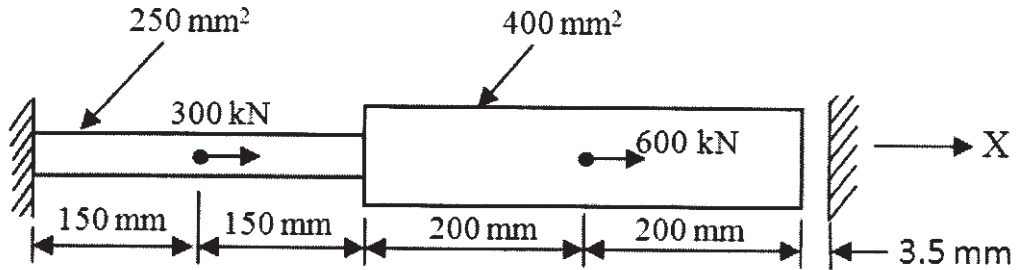

Figure 2
- b) For the bar as shown in Figure 2, determine the nodal displacements and element stresses. Take modulus of elasticity  $E = 2 \times 10^{11} \text{ N/m}^2$ . Take maximum displacement at free end as 3.5 mm. Use elimination approach for boundary conditions. [12]